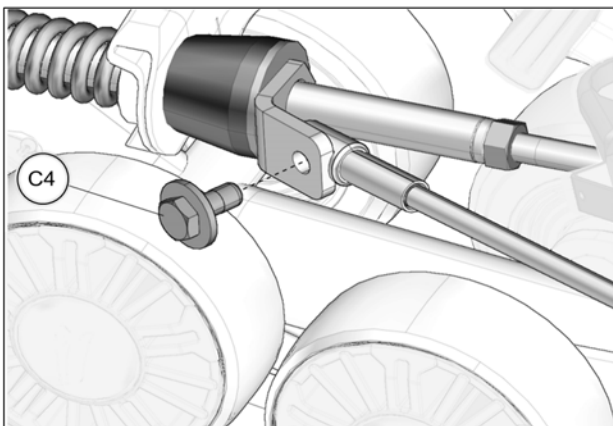

Fig. 28
17. Reverse handlebars a little to be able to bolt support plate and cable together. Tighten provided bolt (C4) to 35 N•m [24 lb•ft]. See Fig. 28. Repeat steps on right side.